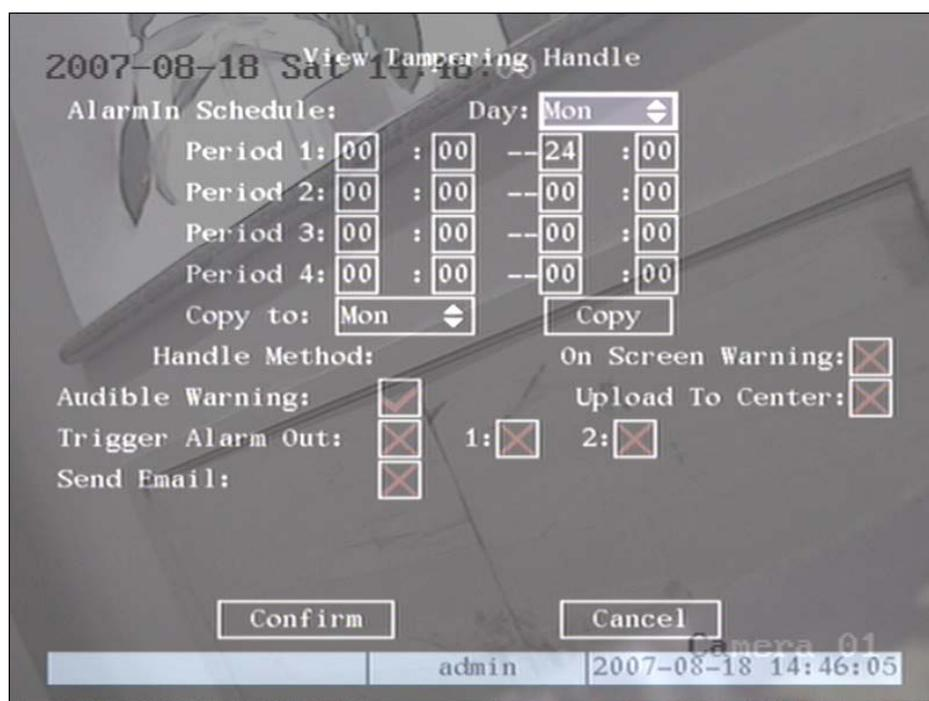

Fig 5.15 View tampering handle setup
Step 5: View tampering alarm setup In “Advanced settings” menu, move “Active Frame” to “Policy” button, press **【ENTER】** key to enter into “View Tampering Handle” menu shown as fig 5.15: